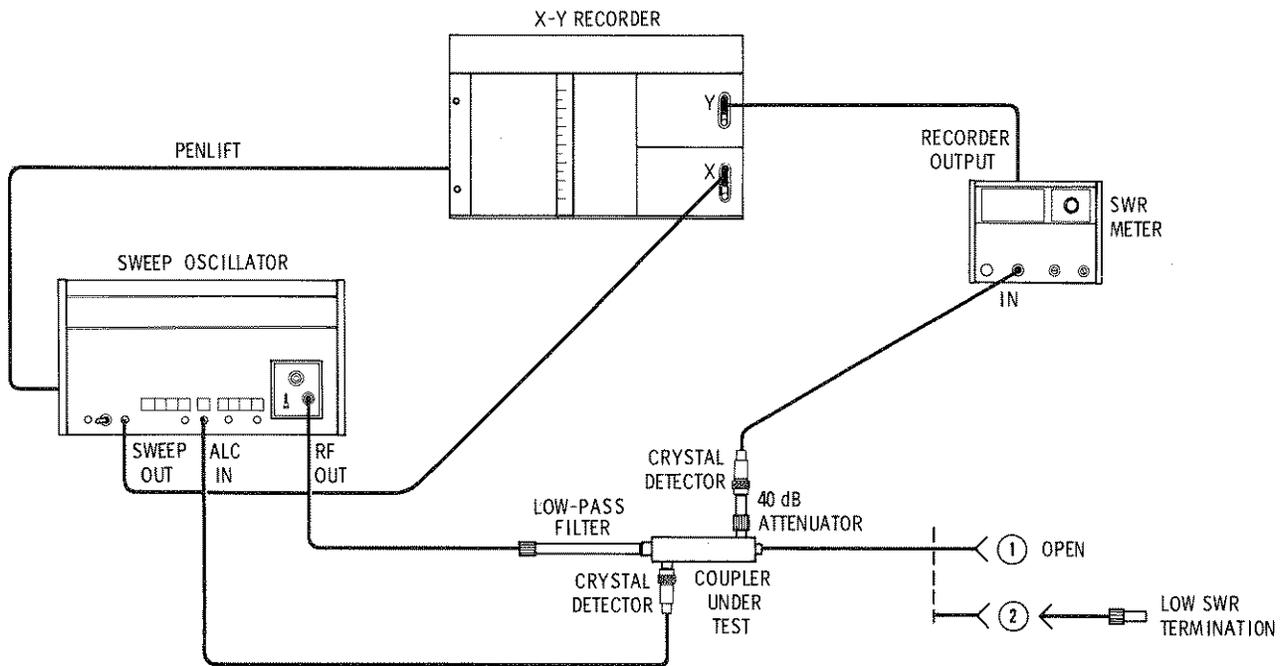

Figure 7. Swept-Frequency Directivity Test Setup
- a. Connect equipment as shown at ① in Figure 7.
1. Connect the termination as shown in ② in Figure 7. Note that this termination must have an  $SWR \leq 1.01$ . Do NOT use adapters, which will increase SWR, with this termination. If adapters are used, the results will be degraded.